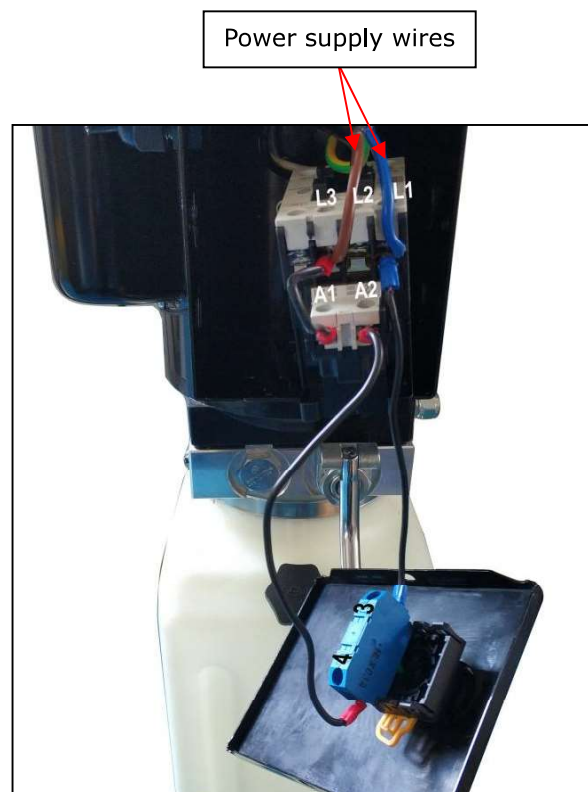

Fig. 30
2. Connection step (See Fig. 30)